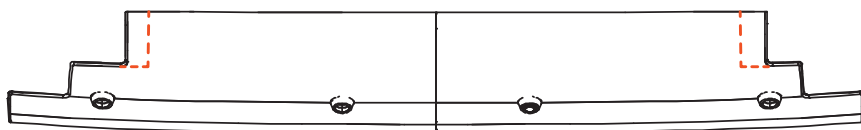

Figure 12 - Trimming the Spoiler / Deflector
- 8. Trim the front spoiler / deflector according to Figure 12.